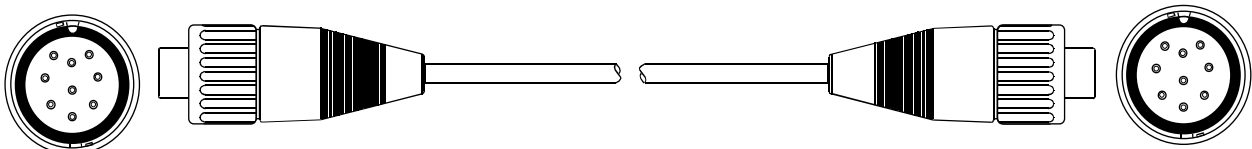

Figure 6: C98-20PD Panel Display Cable
- q C98-20PD Panel Display Cable (40892G-03) (**Figure 6**)